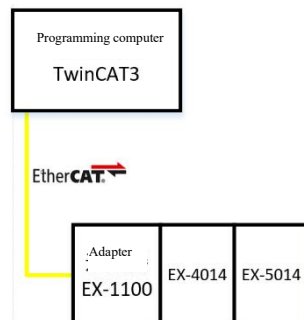

Figure 5-1-9 Communication connection diagram
1. Communication connection diagram, as shown in Figure 5-1-9.